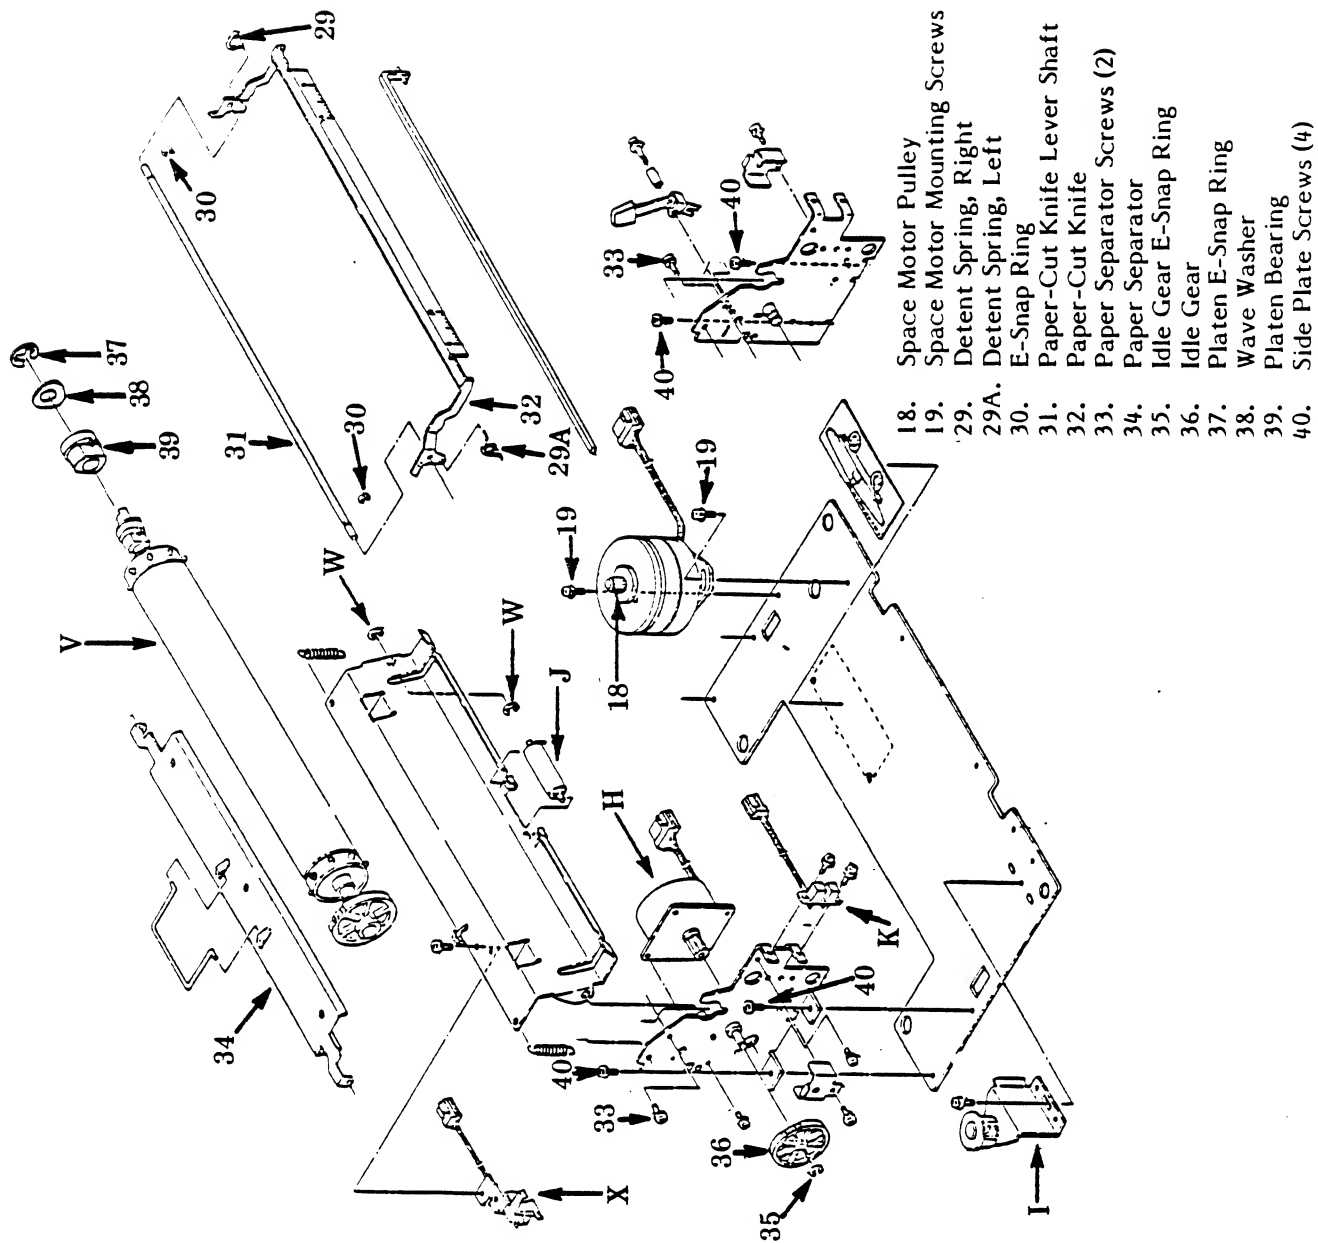

Figure 4-4. Base Unit Assembly (T)
- Remove the idle gear E-snap ring (Figure 4-4, #35) and then the idle gear (Figure 4-4, #36).
- Pull the right platen bearing assembly off horizontally (Figure 4-4, #37-39). Turn the platen 90° and remove it by lifting it straight up.
- Replace the platen bearing assembly (Figure 4-4, #37-39).
- Replace the idle gear and its E-snap ring (Figure 4-4, #35,36).
- Attach the paper separator with its two screws (Figure 4-4, #33,34).
- Attach the paper-cut knife and its lever by inserting the lever shaft through the side plates and affixing the E-snap rings (Figure 4-4, #30-32).
- Replace the two detent springs (Figure 4-4, #29 and 29A).
- Loosen the paper separator screws (Figure 4-4, #33)
- Insert and tighten the four side plate screws (Figure 4-4, #40) to the bottom metal plate.